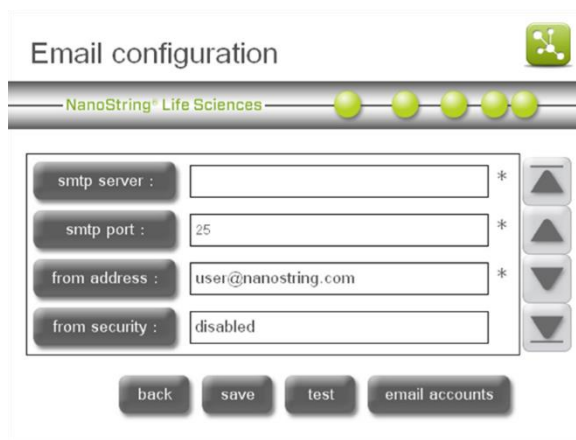

Figure 110: The 'Email configuration' screen.
The 'Email configuration' screen will appear (**Figure 110**).
Email accounts can be deleted from the Prep Station as well. To delete an email address, press the email accounts button from the 'Email configuration' screen (**Figure 110**).
1. Select **lubricate O-rings** on the **Main Menu** or on the **System Hardware Menu (Figure 110)**.